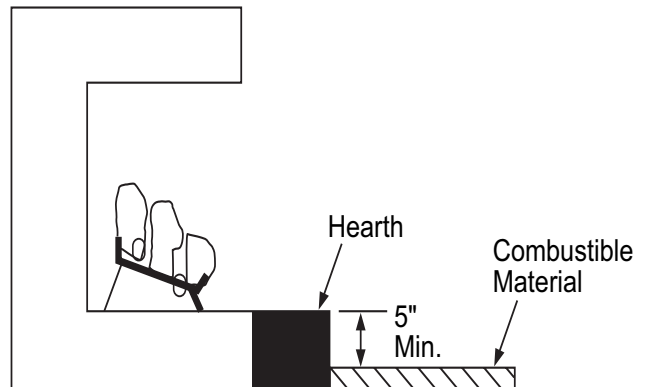

Figure 7 - Minimum Fireplace Clearances Above Combustible Flooring
- If combustible materials are less than 14" to the fireplace, you must install appliance at least 5" above the combustible flooring (see *Figure 7*).